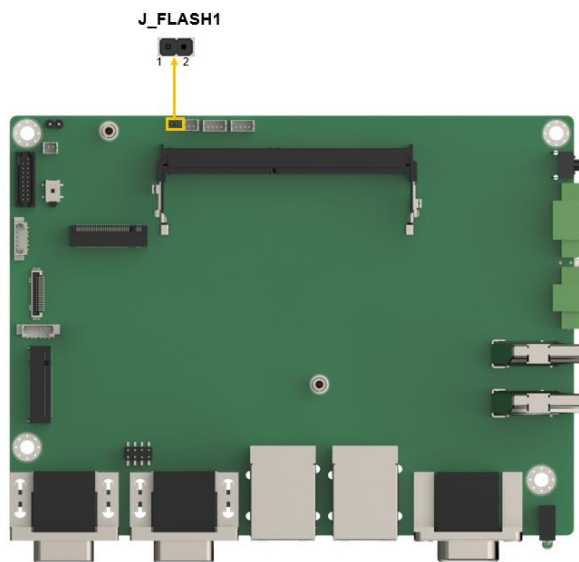

Figure 4-6: Flash Descriptor Override Setting Jumper Locations
- CN Location:** See Figure 4-6